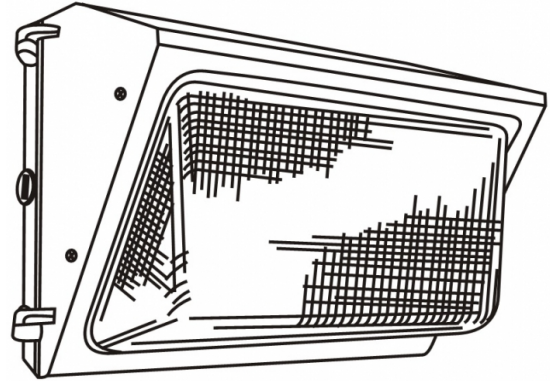

Figure 1.
- If Electrical connections are going to be made through a junction box drill the appropriate holes (Item C in Fig. 1) for the sized junction box.